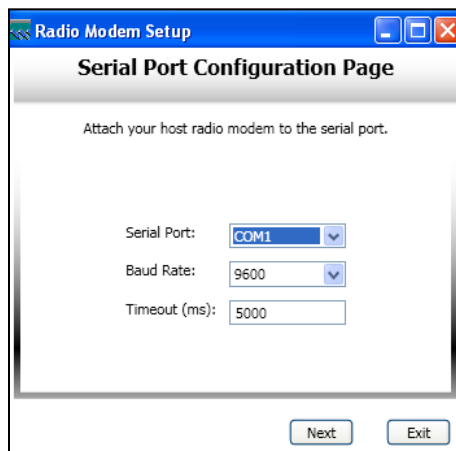

Figure 11. Serial Port Configuration Page
2. Select the Radio System Communication Type. See Figure 11.